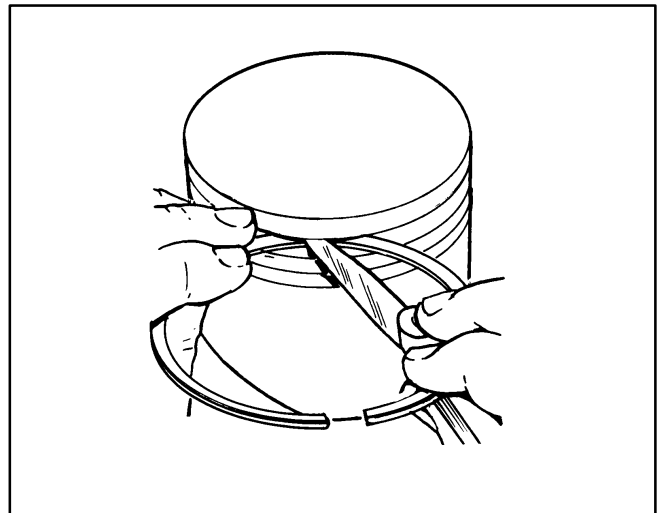

FIGURE 44. CHECKING RING LAND
**Piston Inspection:** Inspect the pistons for fractures at the ring lands, skirts and pin bosses. Check for wear at the ring lands, using a new ring and feeler gauge (Figure 44). Replace the piston if the side clearance of the top compression ring is 0.008 inch (0.20 mm) or more.